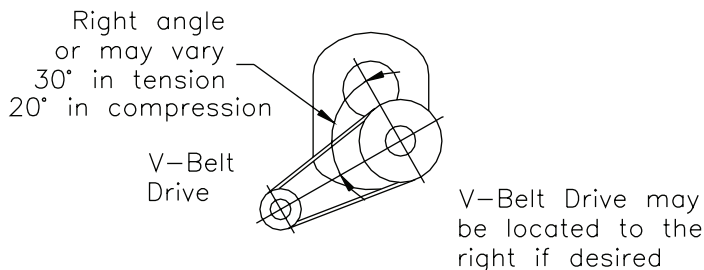

Figure 3 - Installation of Motor
5. Install motor and V-belt drive so belt pull will approximately be at right angles to the center line between driven and input shaft. (See Fig. 3.) This will permit tightening the V-belt drive with the torque arm.